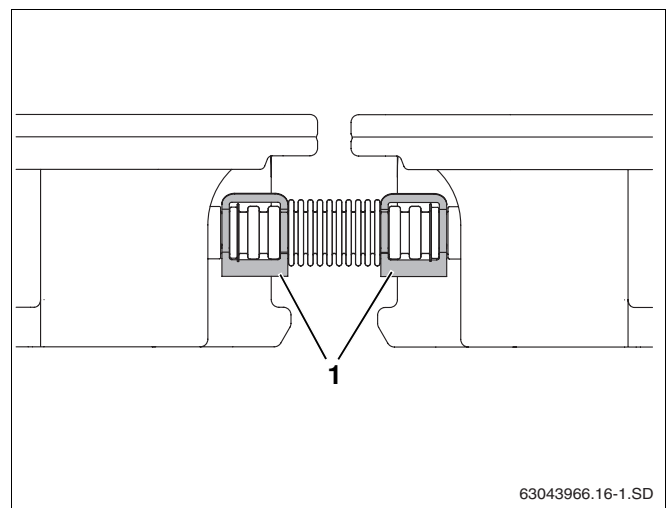

Fig. 47 Corrugated pipe connector secured with brackets
- Secure each end cap with one bracket and each corrugated pipe connector with two brackets (Fig. 47, **Item 1**).